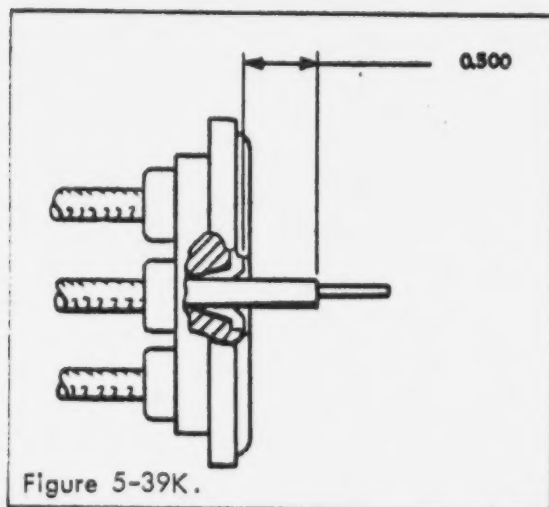

Figure 5-39K.
(7) Measure 1/2 inch from top of ferrule and strip remaining insulation from wire. See figure 5-39K.